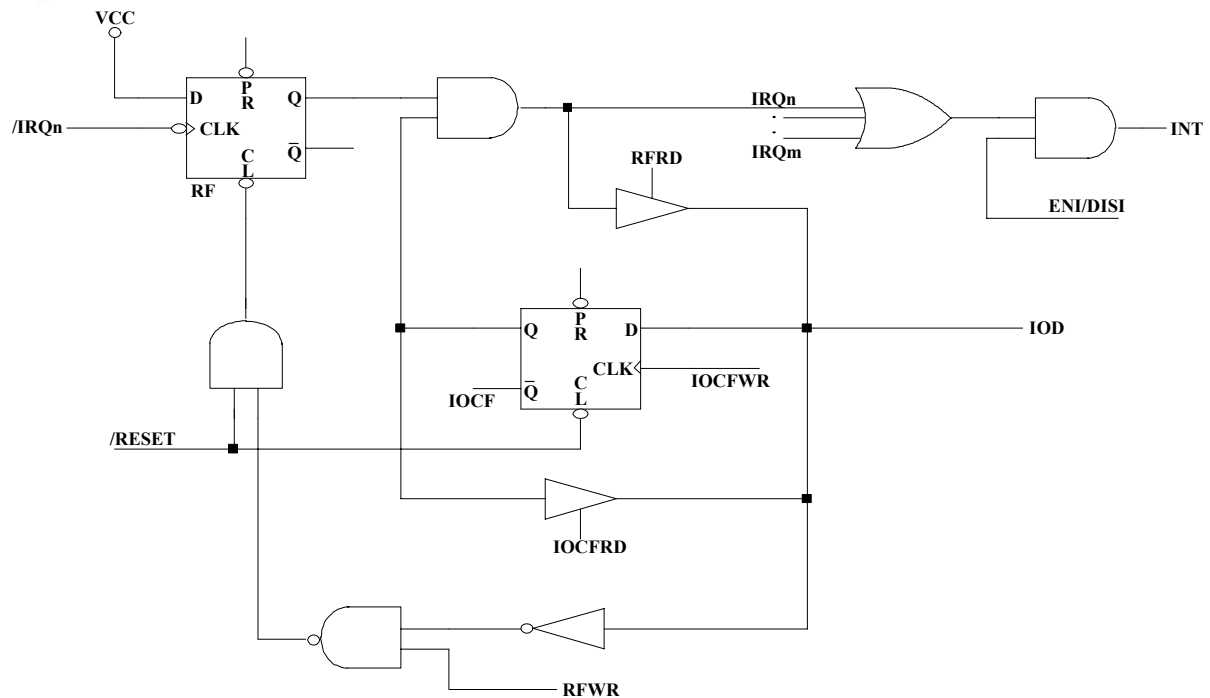

Fig. 11 Interrupt input circuit
The flag (except ICIF bit) in the Interrupt Status Register (RF) is set regardless of the status of its mask bit or the execution of ENI. Note that the outcome of RF will be the logic AND of RF and IOCF (refer to Fig. 11). The RETI instruction ends the interrupt routine and enables the global interrupt (the execution of ENI).